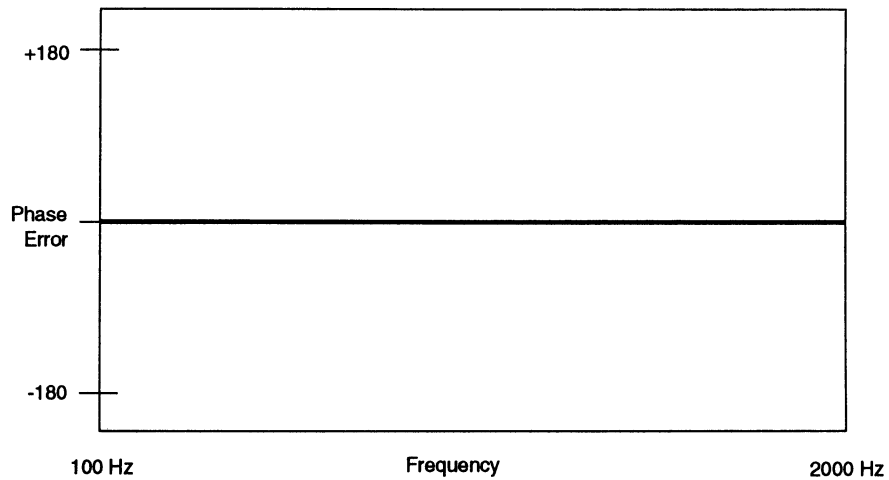

Figure 17. Example of Scope Trace with Correct Delay
Step 4. Add delay to the reference RDM to change the waveform to a flat line with zero slope across the center of the screen (add delay for - slope, remove delay for + slope). See Figure 17.